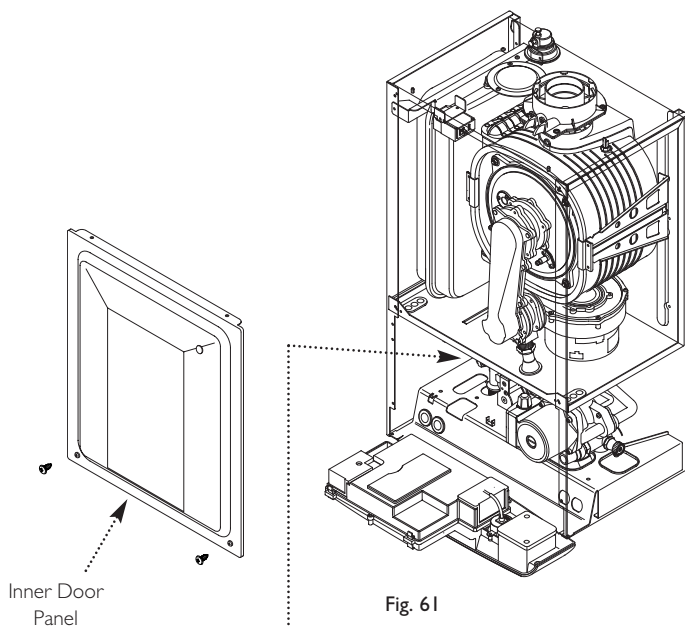

Fig. 61
4. Remove the screws securing the inner door panel. Lift the panel slightly to disengage it from the studs on top of the case (Fig. 61).